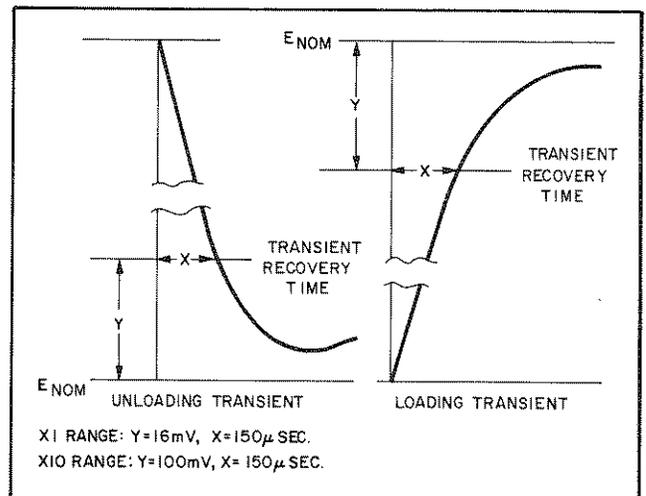

Figure 5-6. Transient Recovery Time, Waveforms
h. Starting from the major graticule division representative of time zero, count to the right 150 μ sec and vertically 100mV. Recovery should be within these tolerances as illustrated in Figure 5-6.
j. The transient recovery should be within 16mV at 150 μ sec as illustrated in Figure 5-6.